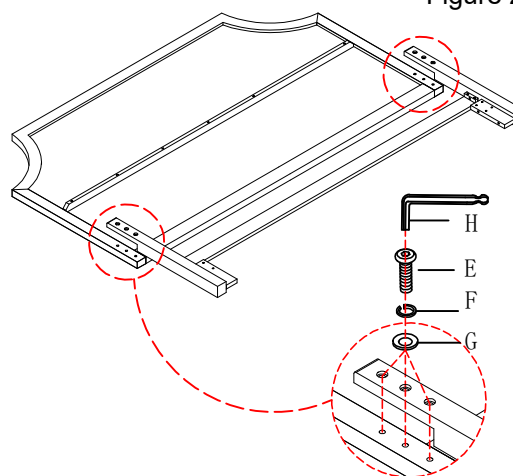

Figure 2
2. Attach the headboard to the headboard base, with Allen bolt (E), Lock Washer (F) and Flat Washer (G). Tighten all bolts with Allen Wrench (H) as shown in Figure 2